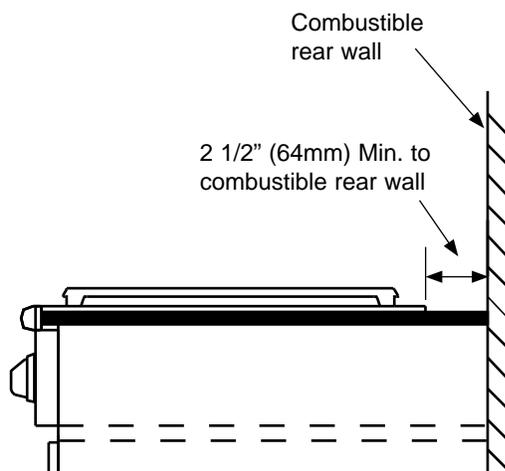

FIGURE 1
- The distance from the back of the cooktop to a combustible rear wall is 2 1/2" (64mm) minimum (Figure 1).